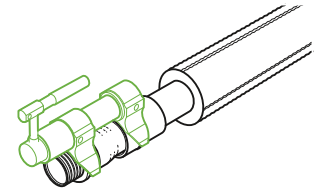

Fig. B10.3.5
8. Assemble the press tool with press jaws (Fig. B10.3.5). Securely locate the press tool jaws onto the collars of both connector sleeves.